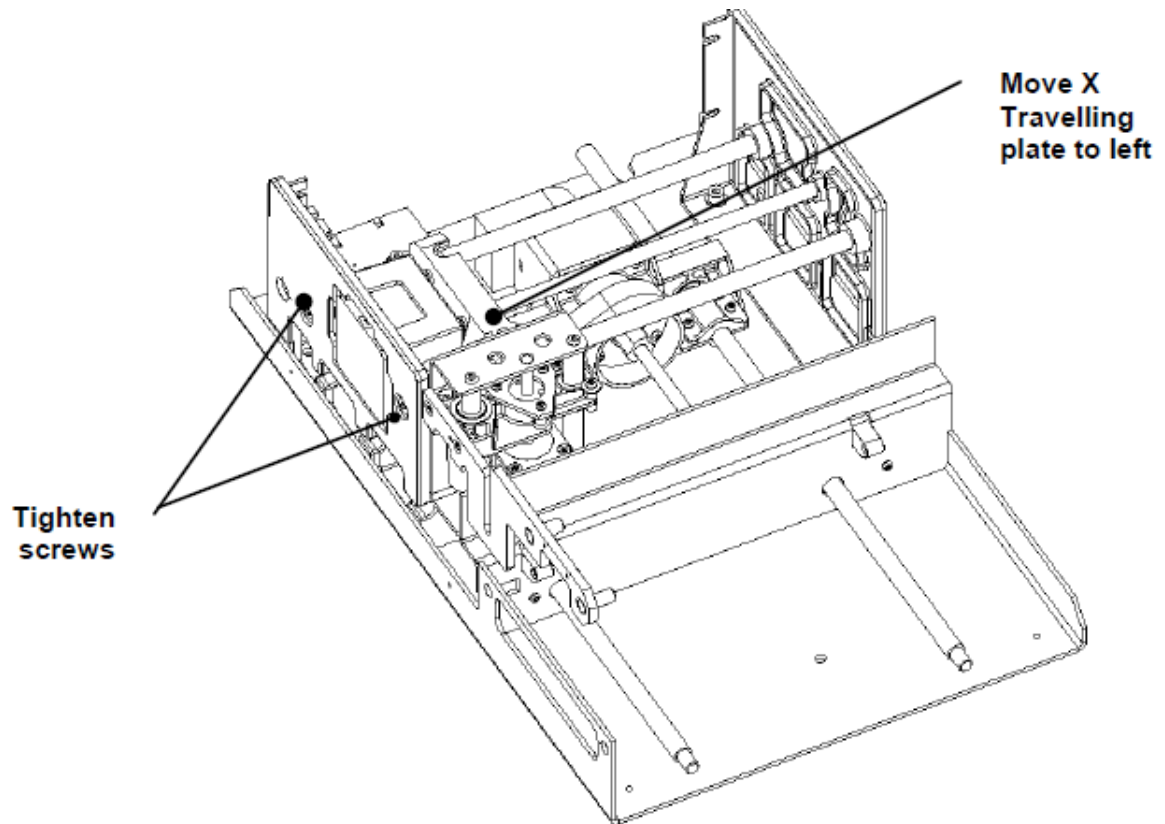

Figure AA-9: Screws for Travelling Plate
1. Remove the screws on the left and right side plate. Figure AA-9 shows the left hand plate, the position of the screws on the right hand plate is similar.